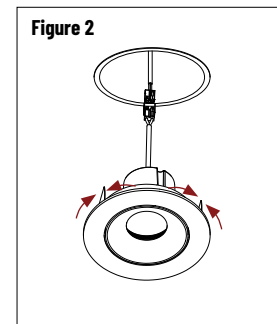

Figure 2
4. Squeeze friction blades on trim and carefully push fixture into the housing. (Figure 2)